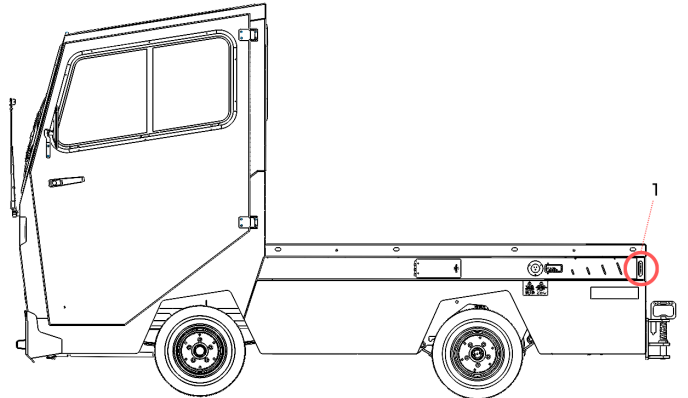

Figure 41. Side Panels.
- Side panels corners (1) (both sides). There is a possibility of cracks occurring in these corners as they undergo significant stress (see Figure 41).